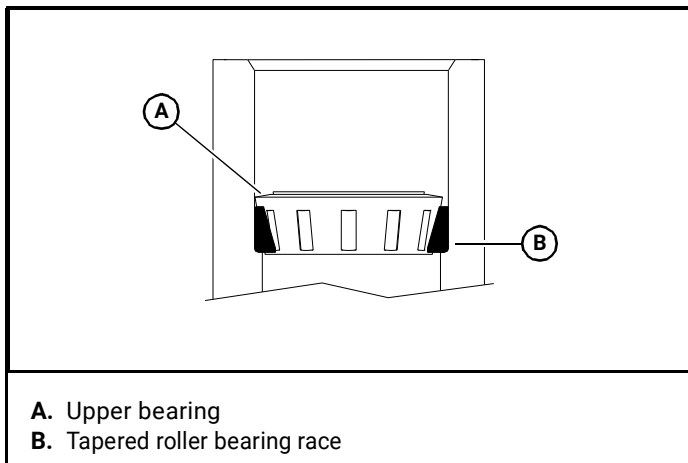

Figure 4-24
10. Install the upper bearing. Figure 4-24